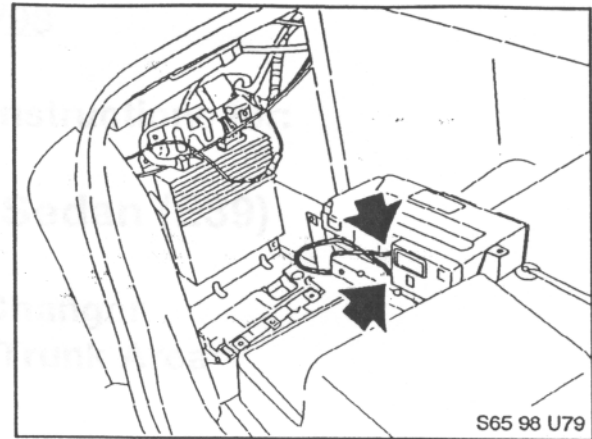

Figure 7
8. Connect CD audio and Power/I-Bus cables to CD changer (see Figure 7).